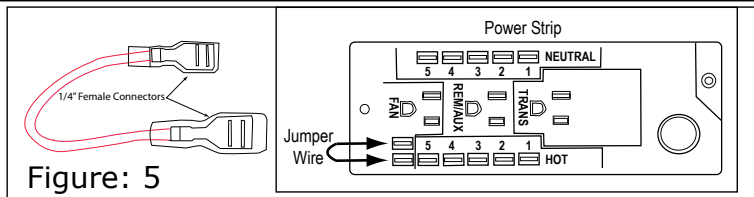

Figure: 5
See Figure: 5
Step 4: Insert the Jumper Wire into the two small ports in the lower corner of Junction Box. Below where 'FAN' is printed, one port is above the other. (Figures: 5 & 6)
Insert 2-Prong Plug into where 'FAN' is printed on the Junction Box. (Figures: 5 & 6)
- If using the power strip jumper wire shown in Figures 5 & 6, ensure the jumper is installed properly allowing power to be supplied to the power strip.